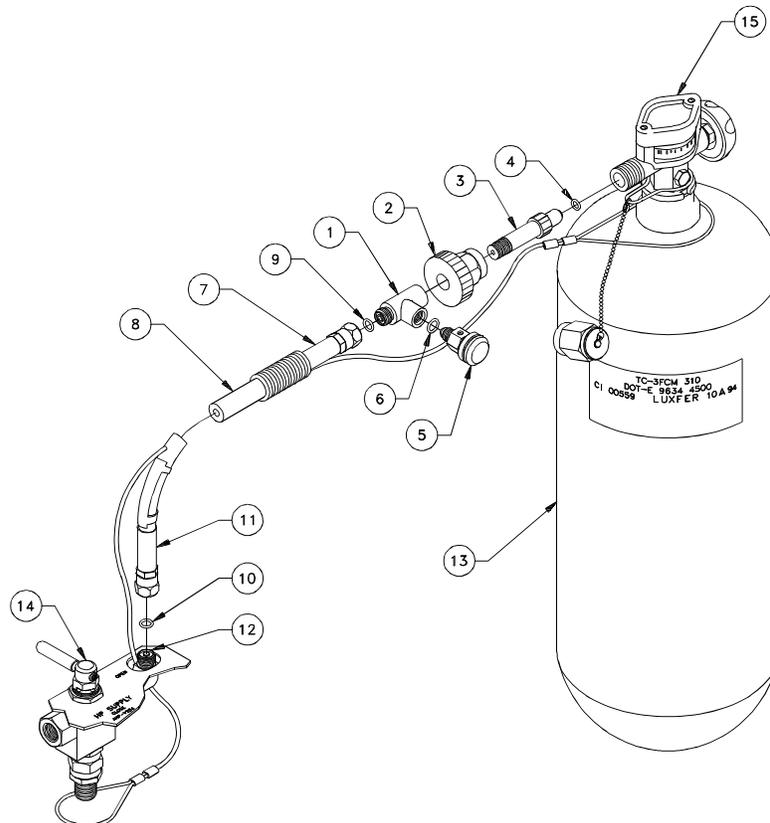

Figure 6-12. HP Air Hose Assembly
6.5.3.1 Nipple and/or O-Ring Removal and Replacement (Figure 6-12).
- (1) Ensure threads are clean and apply Teflon® tape to threads.
- (2) Reinstall hand nut (2) back over inner portion of fitting and thread nipple (3) into tee hand-tight. Hold tee with 3/4" wrench and tighten nut using 11/16" wrench.
- (3) Install O-ring (4).
- (4) Perform HP air hose tightness test IAW paragraph 6.5.3.5.
6.5.3.2 Bleed Valve Removal and Replacement (Figure 6-12).
- (1) Install O-ring (6).
- (2) Screw valve (5) into tee (1) hand-tight; place tee in vise or hold firmly and tighten bleed valve with 11/16" wrench.
- (3) Perform HP air hose tightness test IAW paragraph 6.5.3.5.
6.5.3.3 Air Hose Removal and Replacement (Figures 6-12 and 6-13).
Refer to Figure 6-12 for Steps b.(6) through b.(8).
- (6) Place tee (1) in vise or hold firmly with 3/4" wrench.
- (7) Loosen nut swivel fitting (7) with 11/16" wrench.
- (8) Remove hose (8) with lanyard from tee. Remove O-ring (9).
Refer to Figure 6-12 for Steps c.(1) through c.(3) below.
- (1) Install O-ring (9) on tee (1).
- (2) Screw hose fitting (7) onto tee (1) and hand-tighten.
- (3) Place tee (1) in vise or hold with 3/4" wrench; tighten fitting (7) with 11/16" wrench.